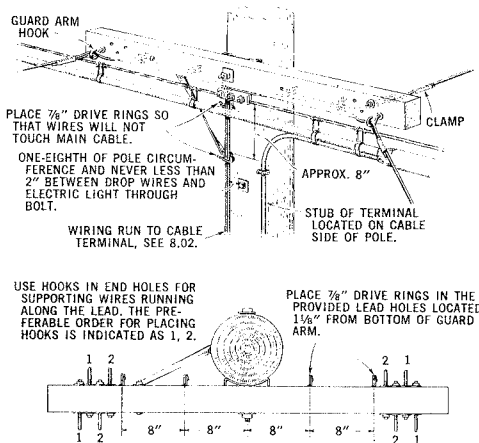

Fig. 5 — Cable Terminal Mounted on Cable Side of Pole
8.01 Distribute drop wires from a guard arm as shown in Fig. 5 and 6.